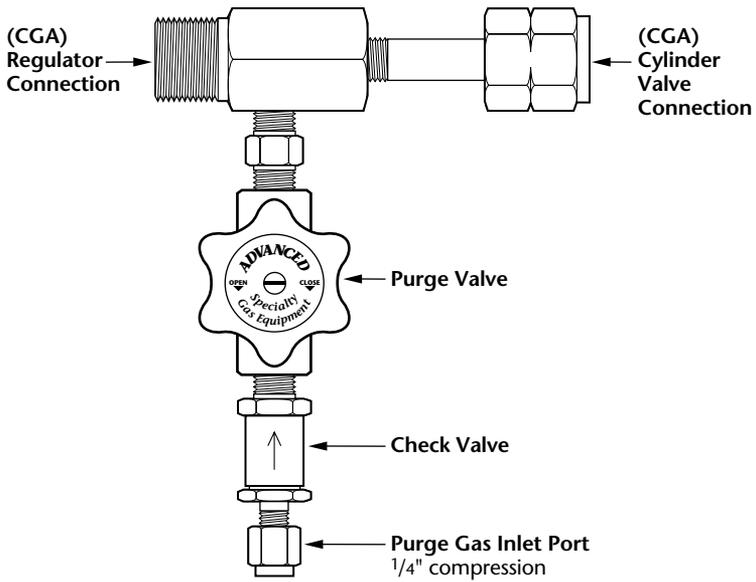

Figure 2 – Models SG3893 and SG3894
6. Connect a regulated source of clean dry nitrogen to the purge gas inlet port (Fig.2, see pg.10).